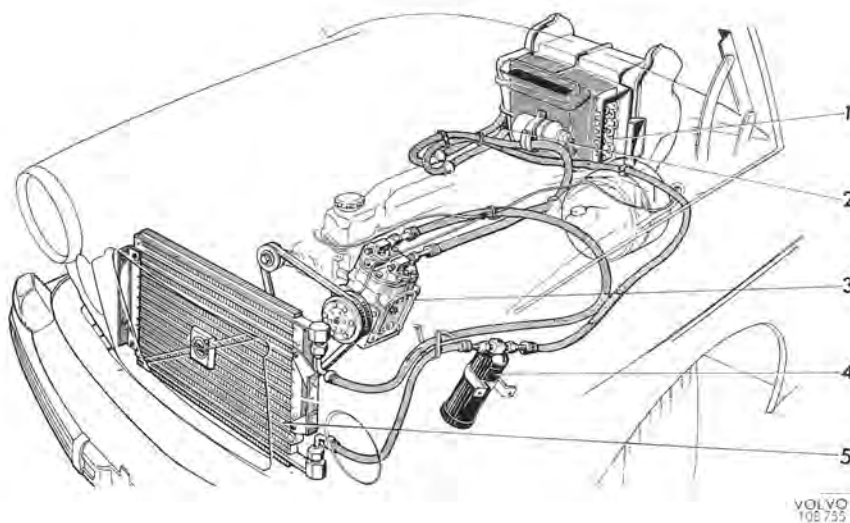

Fig. 8-40. Cooling system
The cooling system in the unit is of the compressor type, which means that the circulation of the refrigerant is carried out by a compressor. The system is divided up into the main components: evaporator (1, Fig. 8-40), thermostatic expansion valve (2), compressor (3), dryer (4), and condenser (5). The evaporator and expansion valve are placed in front of the heater system cell assembly inside the passenger compartment and the other components in the engine compartment.